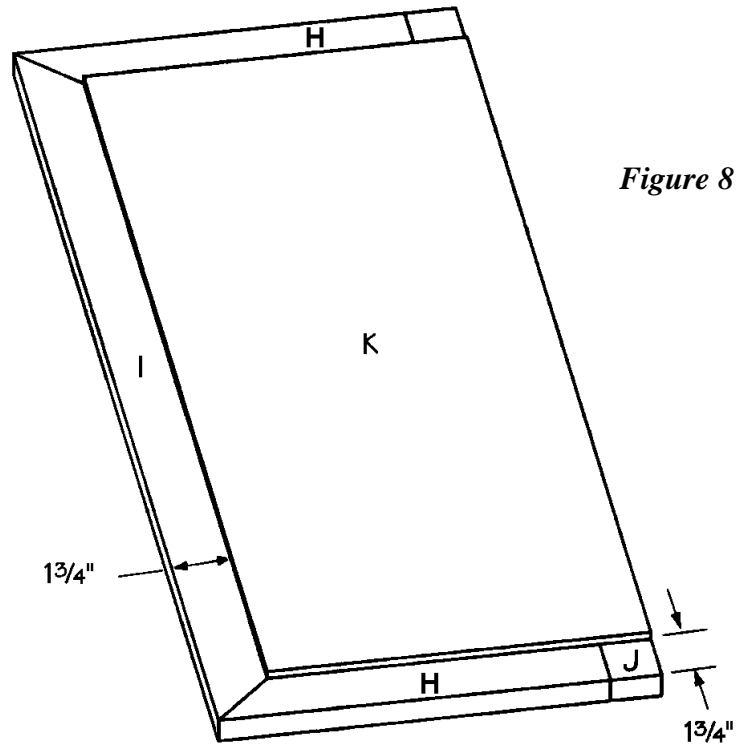

Figure 8
13. Place a routed trim assembly (routed side down) on a flat surface. Place a door panel (K) over the assembly, flush with the outer edge of the narrow side door trim (J), as shown in *Figure 8*. The other three trim pieces (H and I) should be exposed by 1-3/4 inches. Apply glue to the meeting surfaces, and nail through the door panel (K) into each of the four trim pieces (H, I, and J), using small 3/4 " brads, placed about every 4 inches.
13. Place a routed trim assembly (routed side down) on a flat surface. Place a door panel (Z) over the assembly, flush with the outer edge of the narrow side door trim (y), as shown in *Figure 8*. The other three trim pieces (W and X) should be exposed by 1-3/4 inches. Apply glue to the meeting surfaces, and nail through the door panel (Z) into each of the four trim pieces (W, X, and Y), using small 3/4 brads, placed every 4 inches.